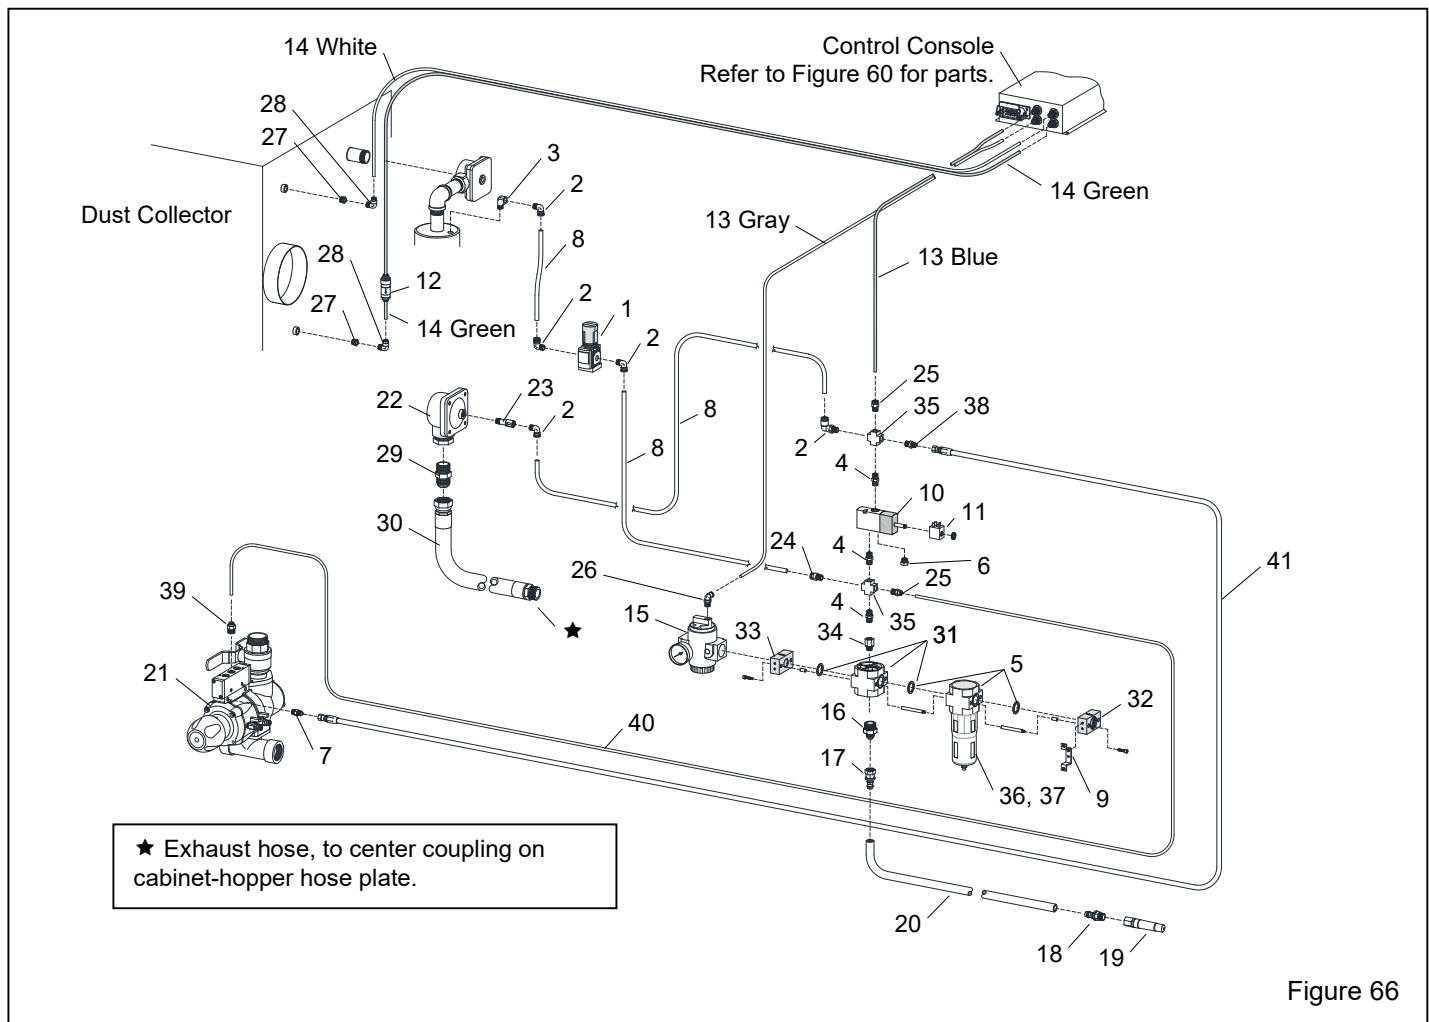

Figure 66
10.9 Pneumatic Controls and Parts – Figure 66